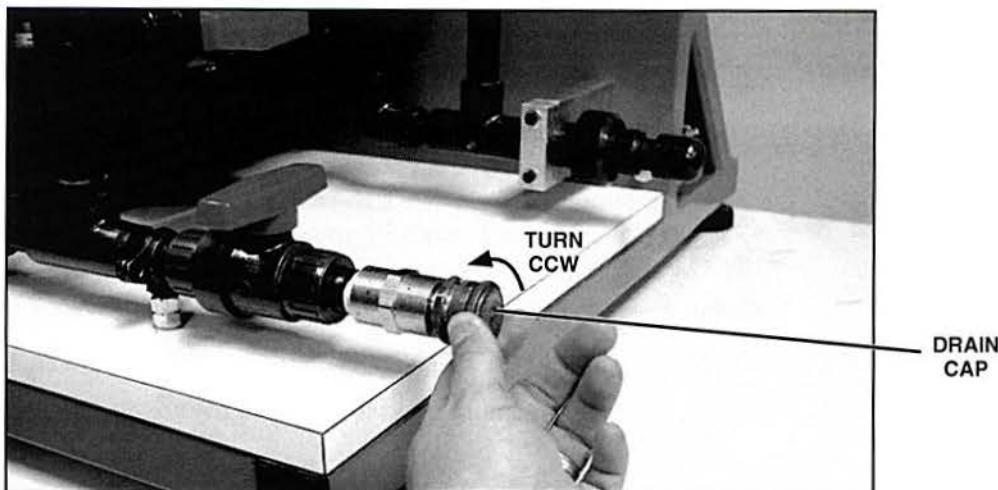

Figure 47. Remove Drain Cap
- B. Remove the drain cap from the drain connector, shown in figure 47, by turning it counterclockwise.